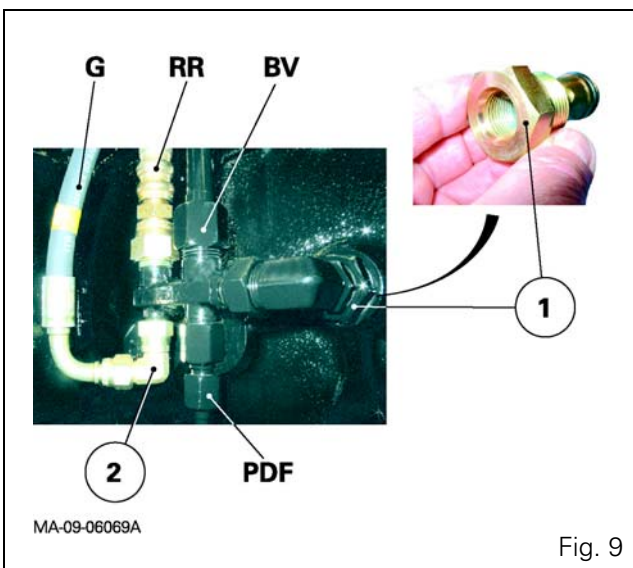

Fig. 9
The 1.5 bar valve (1) is hidden behind the fuel tank, and is located at the front left-hand side of the gearbox (Fig. 9).
NOTE 2: Considering the available hydraulic options, other assemblies can be carried out on the union (2) (Fig. 9). Example: Front PTO - Meritor brake master cylinders)